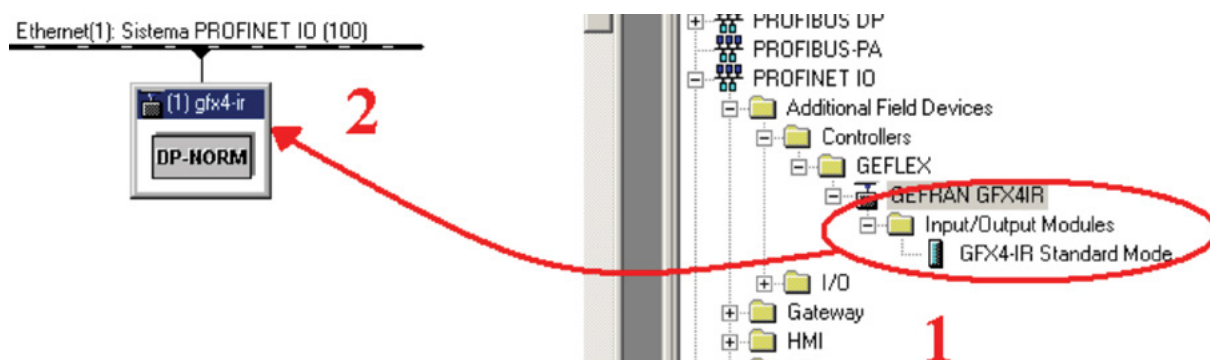

Figure 9
You can now connect to the network (2) by dragging the device (1) as shown in Figure 9